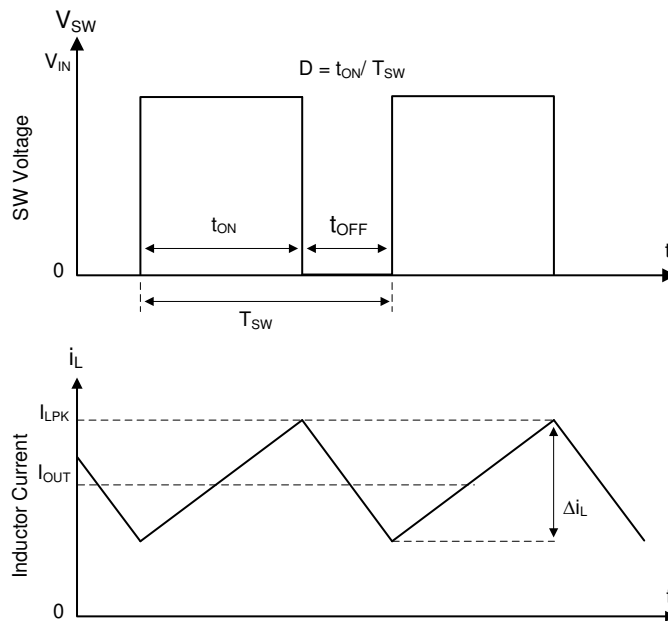

Figure 9-1. SW Node and Inductor Current Waveforms in Continuous Conduction Mode (CCM)
The following operation description of the TPS6293x refers to the functional block diagram and to the waveforms in Figure 9-1. The TPS6293x is a synchronous buck converter with integrated high-side (HS) and low-side (LS) MOSFETs (synchronous rectifier). The TPS6293x supplies a regulated output voltage by turning on the HS and LS NMOS switches with controlled duty cycle. During high-side switch on time, the SW pin voltage swings up to approximately V_{IN} , and the inductor current, i_L , increases with linear slope $(V_{IN} - V_{OUT}) / L$. When the HS switch is turned off by the control logic, the LS switch is turned on after an anti-shoot-through dead time. Inductor current discharges through the low-side switch with a slope of $-V_{OUT} / L$. The control parameter of a buck converter is defined as Duty Cycle $D = t_{ON} / t_{SW}$, where t_{ON} is the high-side switch on time and t_{SW} is the switching period. The converter control loop maintains a constant output voltage by adjusting the duty cycle D . In an ideal buck converter where losses are ignored, D is proportional to the output voltage and inversely proportional to the input voltage: $D = V_{OUT} / V_{IN}$.